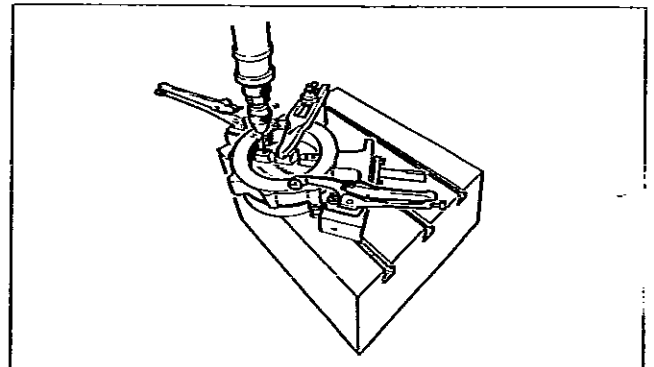

Fig. 13. Drilling the pins
- Remove the clamp ring (2) and seat ring (4) according to section 5.4.
- Set the valve horizontally on a sturdy surface so that the flat side of the disc lays against the surface, see fig. 13.